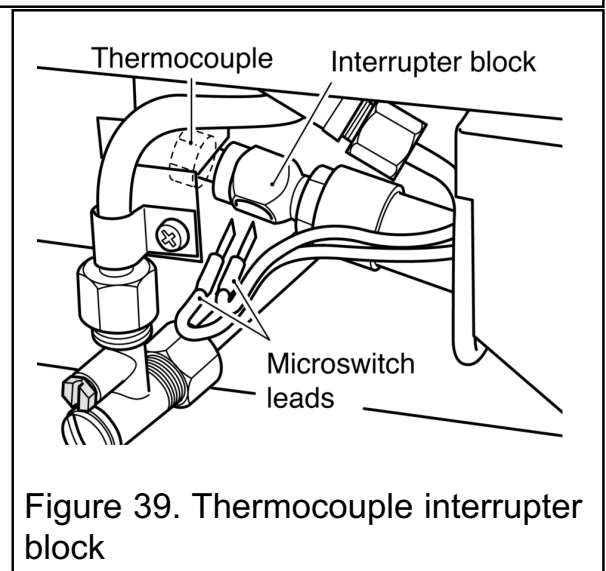

Figure 39. Thermocouple interrupter block
2. Loosen the thermocouple nut to free the microswitch leads and pull the leads clear of the thermocouple interrupter block (See figure 39).
## 17.9 To remove the thermocouple interrupter block (See figure 39).